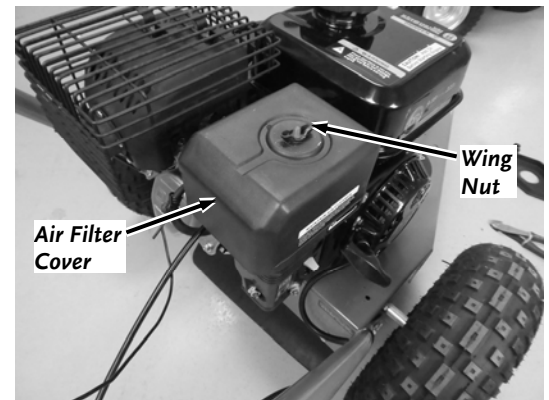

Figure 20
1. Remove the Air Filter Cover by removing the Wing Nut and lifting the Cover up off the Filter Base (**Figure 20**).